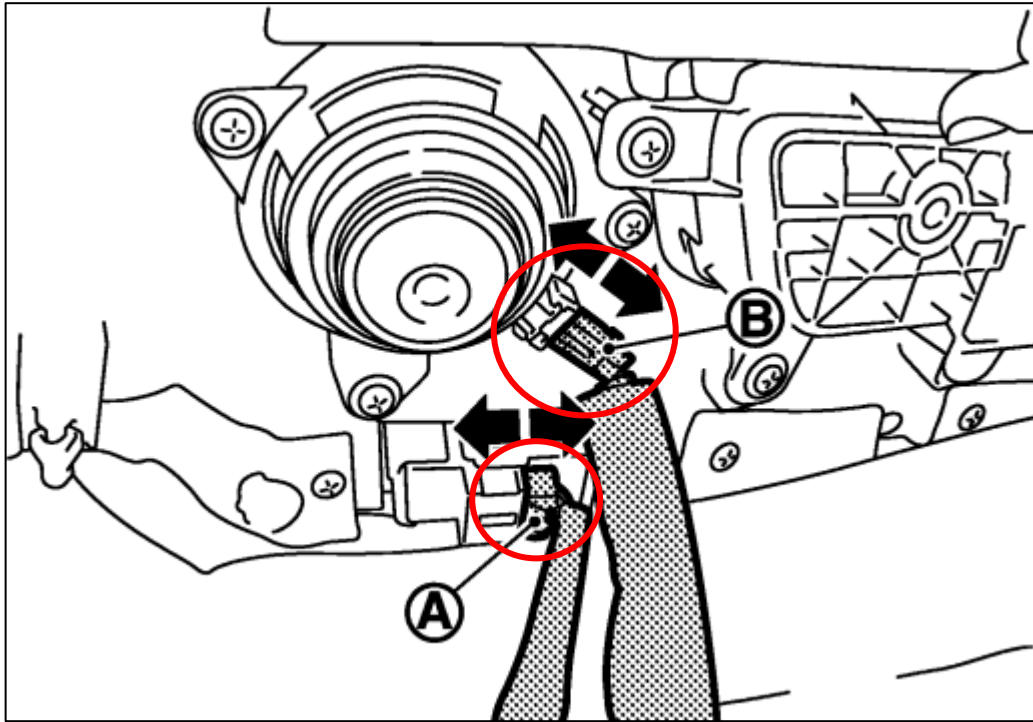

Figure 61
8. With the Door Panel disconnected, disconnect the electrical connectors as shown below. *Figure 61.*